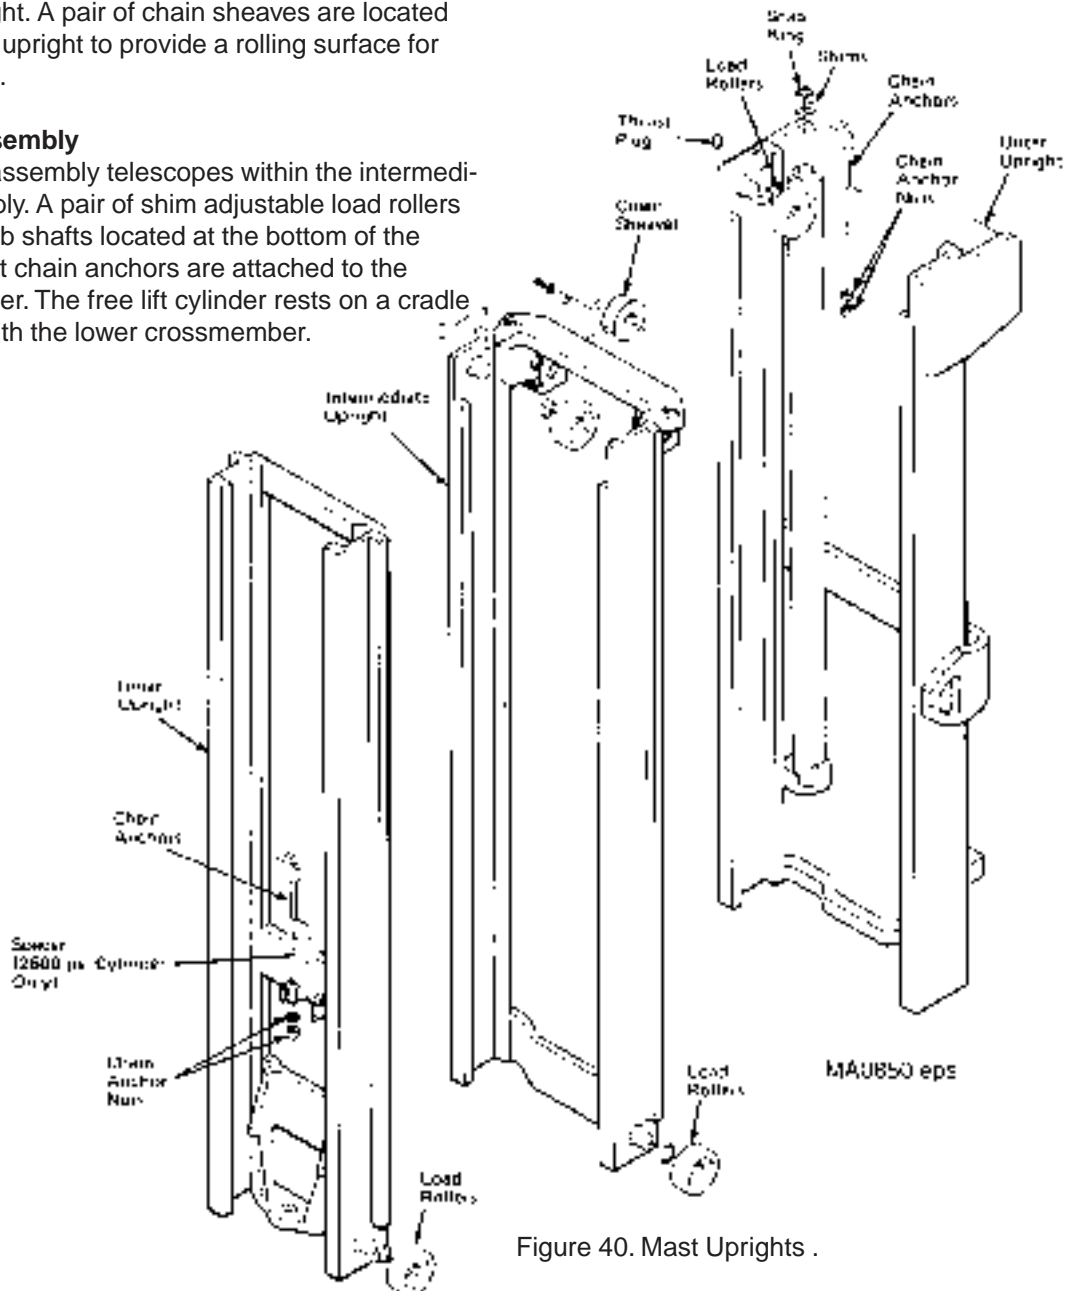

Figure 40. Mast Uprights .
5. Lubricate the intermediate upright rails with chassis lube or Kendall SR-12X. See Figure 40.